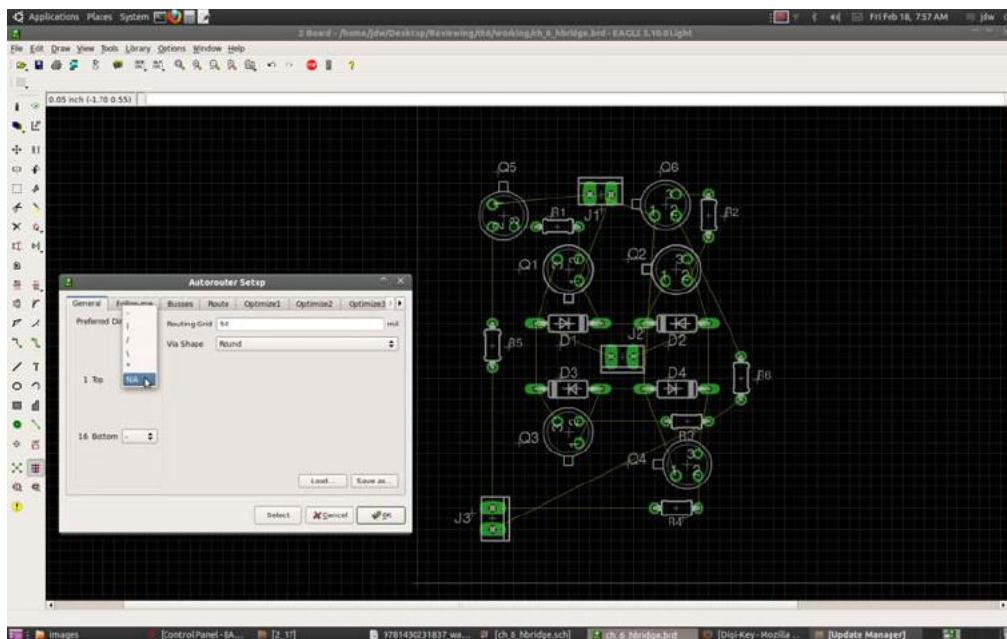

Figure 6-9. With each component placed on the board, you can start routing wire traces to replace the virtual wires (shown in yellow).
3. *Arrange parts on board editor.* The arrangement in Figure 6-9 won't allow crossing wires when we route the traces. It helps to turn on the spacing grid in the board editor so you can make sure everything is aligned properly because this will be the way your PCB looks when it is finished. To enable, go to View Grid Display from the board editor and select the On box. The grid size should be 0.05 inch by default. The component outlines are accurately sized with the real components that you will place on the board, so make sure your component outlines are not overlapping in the layout, because they will also overlap when you try to assemble your board.